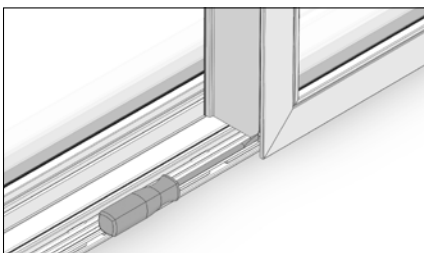

Figure 1: Cover removed from back side of master sash
2. Remove the cover on the back side of the master sash (figure 1).